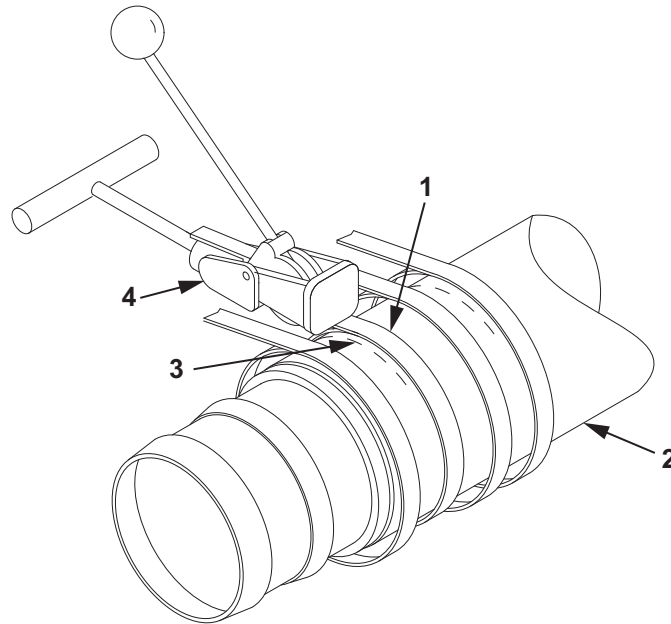

Figure 24. Hose Assembly Repair.
15. Position the first clamp (Figure 24, Item 1) on the hose assembly (Figure 24, Item 2) until it is aligned with the first mark (Figure 24, Item 3) previously made on the hose assembly (Figure 24, Item 2).
16. Using clamping tool (Figure 24, Item 4), tighten the clamp (Figure 24, Item 1) until almost flush with the hose assembly (Figure 24, Item 2) surface.